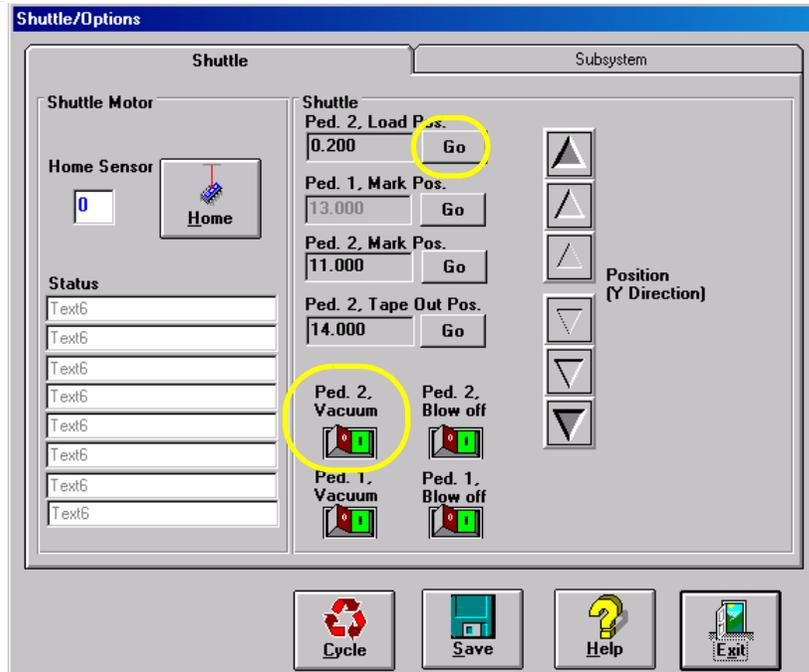

Figure 5-32—Click **Go** and then turn **Ped 2 Vacuum ON**
- 2b) On the **Shuttle** tab, click **GO** next to **Ped 2 Load Pos.** Then click the Ped 2 Vacuum to **ON**. See Figure 5-32.